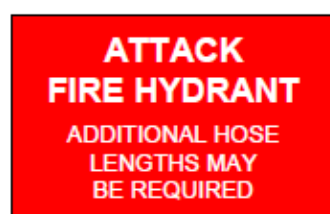

Figure 7 Example of signage required adjacent to external attack fire hydrant
- 6.3.2 A fade and weather resistant sign, A4 in size, is to be permanently affixed adjacent to each external attack fire hydrant, and have uppercase contrasting text which states (see Figure 7):